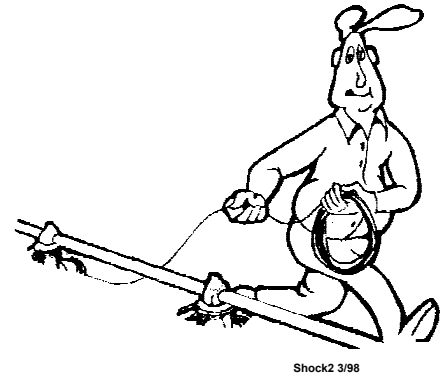

Figure 48. Unrolling the Cable
1. Unroll the bulk anti-roost cable. Note: If the cable is unrolled as shown in **Figure 48**, taking 5 loops of the coil with one hand, then changing hands to remove 5 loops as it is unrolled, it will lie flat during installation.